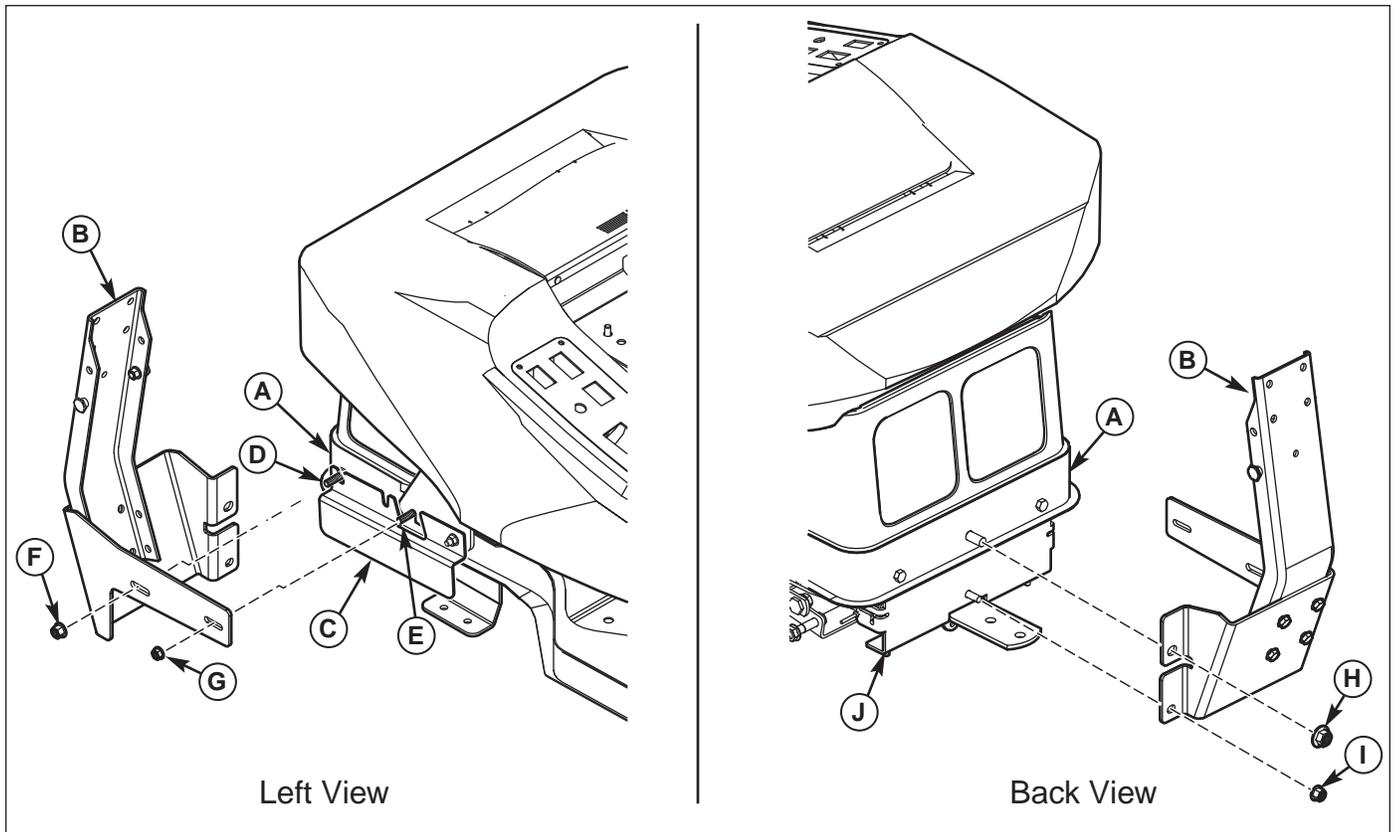

Figure 2. Install Hitch Assembly
1. Remove 5/16-16 nut (G, Figure 2) from seat deck support capscrew (E).
2. Remove 3/8-16 nut (F) from rear debris guard capscrew (D).
3. Remove 1/2-13 nut (H) from rear of frame (A).
4. Remove 3/8-16 nut (I) from rear transmission support (J).
5. Attach hitch assembly (B) to frame (A) sliding rear of hitch flush with frame.
6. Finger tighten 3/8-16 nut (F), 5/16-16 nut (G), 1/2-13 nut (H) and 3/8-16 nut (I).
7. Tighten 3/8-16 nut (F) and 5/16-16 nut (G) first, then 1/2-13 nut (H) and 3/8-16 nut (I).